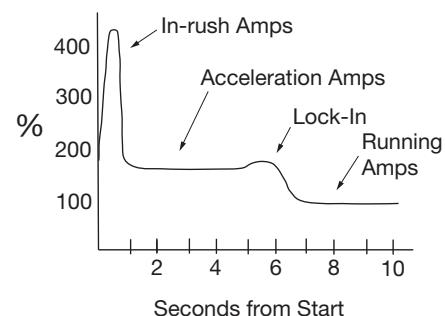

Figure 2 - Flow Charge Ratios
4. Push start button. Observe motor current during load acceleration and number of seconds required to reach full speed (Figure 2).